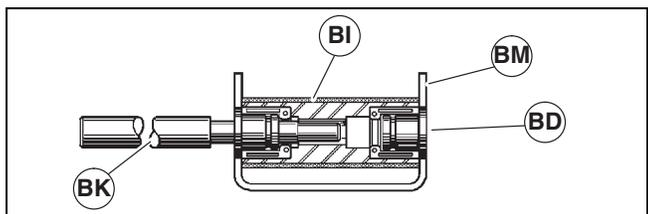

Figure 43
- Insert sleeve arbor tool (Figure 43, item BK) into opposite side of conveyor.